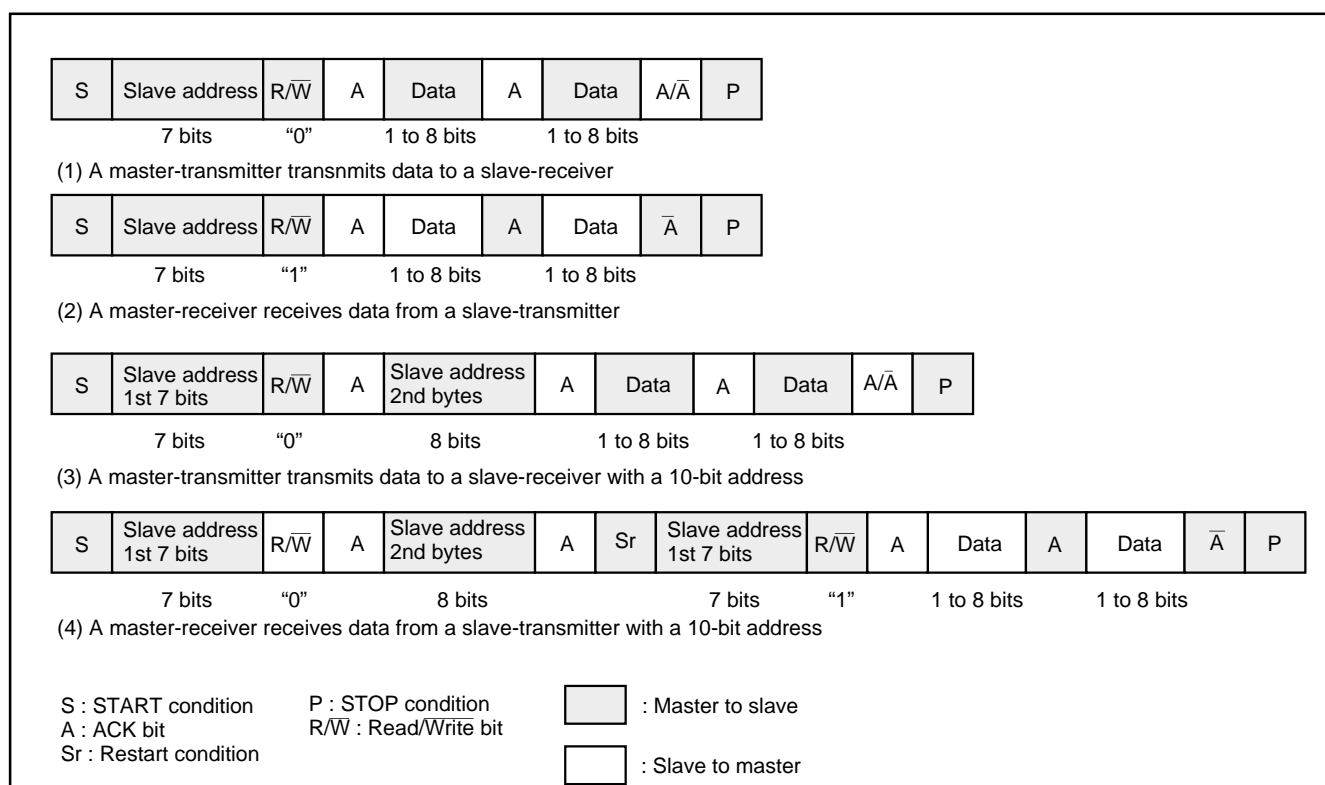

Fig. 36 Address data communication format
To adapt the 7-bit addressing format, set the 10BIT SAD bit of the I2C control register (address 002E16) to "0". The first 7-bit address data transmitted from the master is compared with the high-order 7-bit slave address stored in the I2C address register (address 002C16). At the time of this comparison, address comparison of the RWB bit of the I2C address register (address 002C16) is not performed. For the data transmission format when the 7-bit addressing format is selected, refer to Figure 36, (1) and (2).
When the first-byte address data agree with the slave address, the AAS bit of the I2C status register (address 002D16) is set to "1". After the second-byte address data is stored into the I2C data shift register (address 002B16), perform an address comparison between the second-byte data and the slave address by software. When the address data of the 2 bytes agree with the slave address, set the RWB bit of the I2C address register (address 002C16) to "1" by software. This processing can make the 7-bit slave address and R/W data agree, which are received after a RESTART condition is detected, with the value of the I2C address register (address 002C16). For the data transmission format when the 10-bit addressing format is selected, refer to Figure 36, (3) and (4).